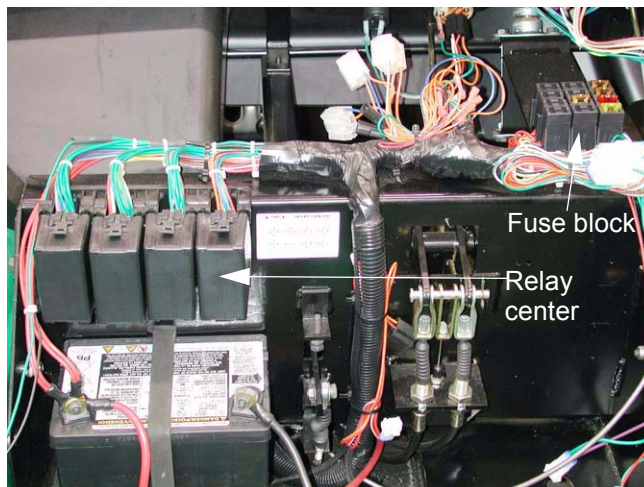

Figure 3.1
- 3.1. The relays have been consolidated into a relay center above the battery, in the place formerly occupied by the voltage regulator-rectifier. The fuse block has been moved from the vertical surface of the firewall. See Figure 3.1.